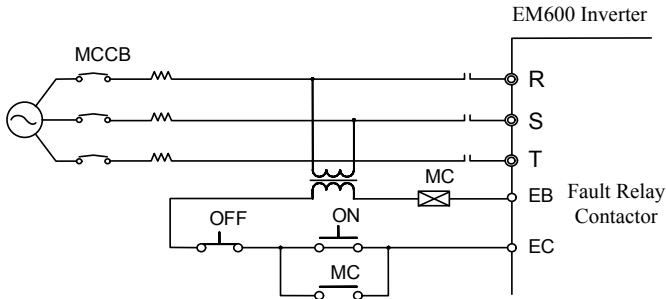

Figure 3-5 Connecting to Input Circuit Breaker
- When MCCB is used with multiple inverters or other devices, please connect fault output relay contactor to power contactor coil, so that power supply will be turned off by fault signal (Figure 3-5).